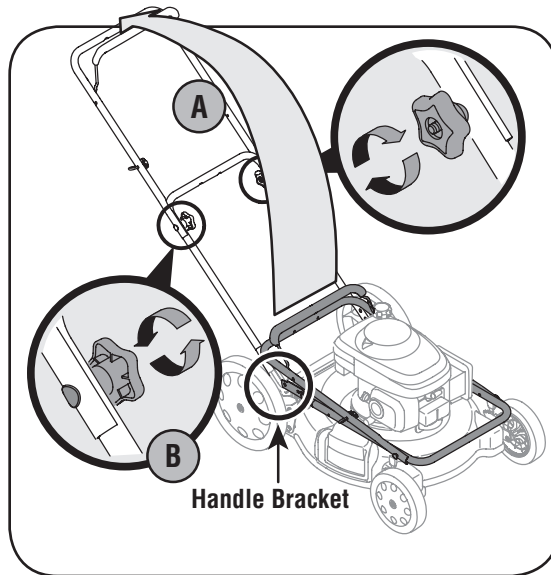

Figure 2
- a. Pull up and back on the upper handle to raise the handle from position A into the operating position. See Figure 2.